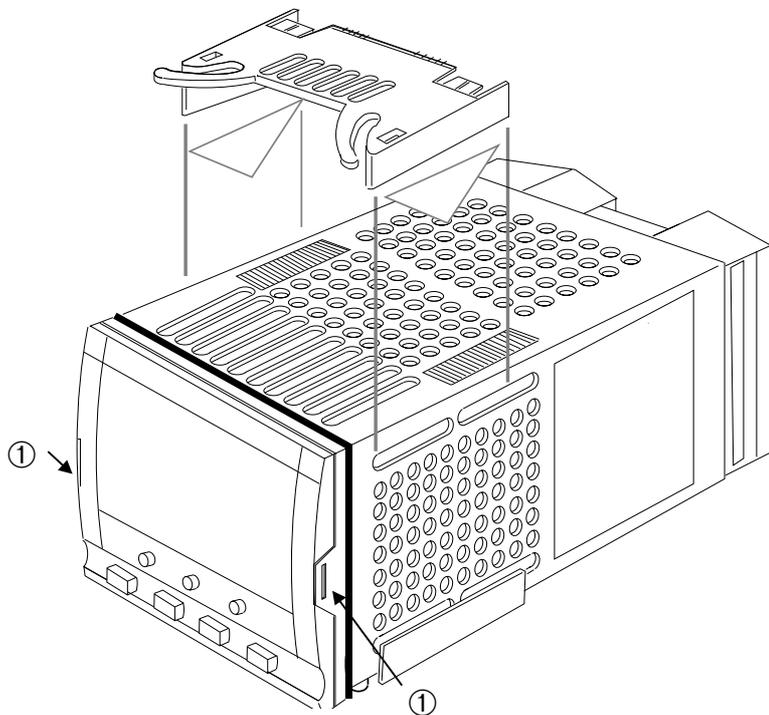

Figure 1-8: View of the Controller in its Sleeve
1. Remove the controller from its sleeve by pushing both latching ears ① (Figure 1-8) outwards and easing the controller forwards from its sleeve. It should not be necessary to use any tools for this.